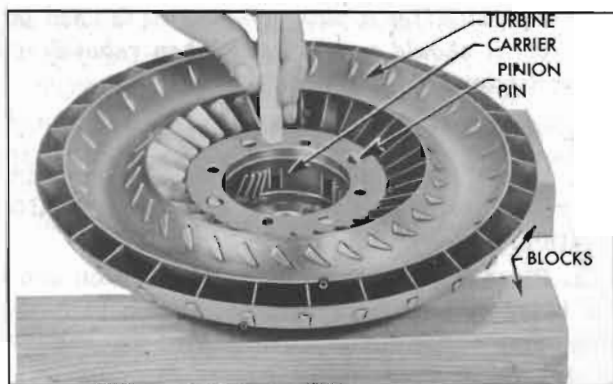

Figure 5-57—Installing Turbine on Carrier
3. Use a hammer and hardwood dowel or other soft punch to tap the turbine down over the carrier. Avoid distortion of turbine by using light blows applied midway between holes and alternated from side to side to keep parts square with each other. See Figure 5-57.